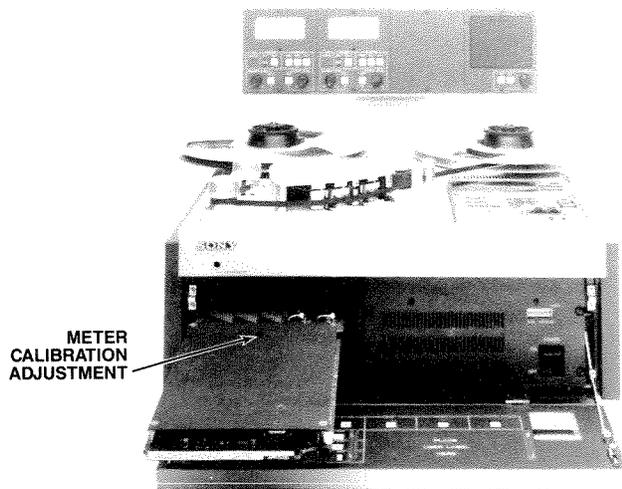

Figure 3-4. CNL Adjustments
STEP 8 On the CNL, adjust RV3 (see Figure 3-4) for the correct reading on the panel meter for Channel 1. See Table 3-11 for some of the typical 0VU reference levels.